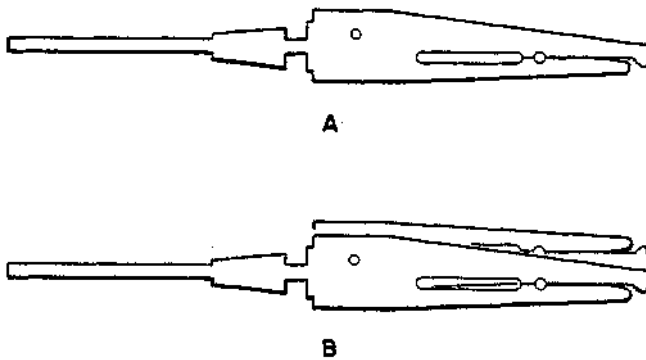

Fig. 1 — Replacement Terminals
1.02 The procedures apply to 66-type connecting blocks arranged with single or twin clip terminals. The single-clip terminal used on the 66G-type connecting block is illustrated in A, Figure 1. The twin-clip terminal used on the 66H-type connecting block is illustrated in B, Figure 1.
- (a) Select the proper replacement terminal (Fig.1).